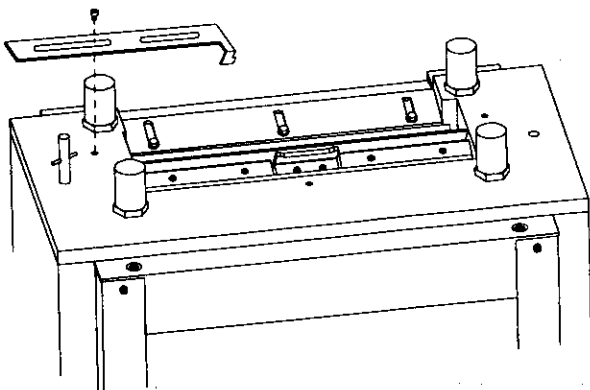

Figure 7 - Installing Cutter Bits and Knife Setting Gauge
Refer to Figures 7, 8 and 15, pages 8, 9 and 16.
The knife setting gauge (see Figure 7) is used when mounting three piece molding bits in the planer/molder cutterhead. The gauge aligns the bits in the cutterhead so that all three bits cut the workpiece in the same position providing precise cuts and improved surface finish.
- Using the 6mm socket head bolt (Figure 15, Key No. 5) used to mount the knife cover, mount the knife setting gauge to the top of the planer/molder as shown in Figure 7.